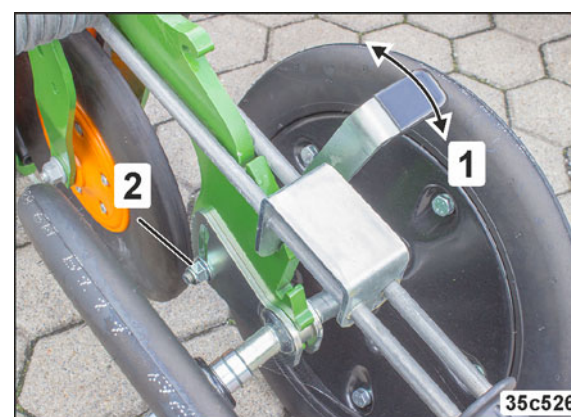

Fig. 181
6. Rotate the axle by moving the lever (Fig. 181/1).
7. Secure the lever position with the bolt (Fig. 181/2).